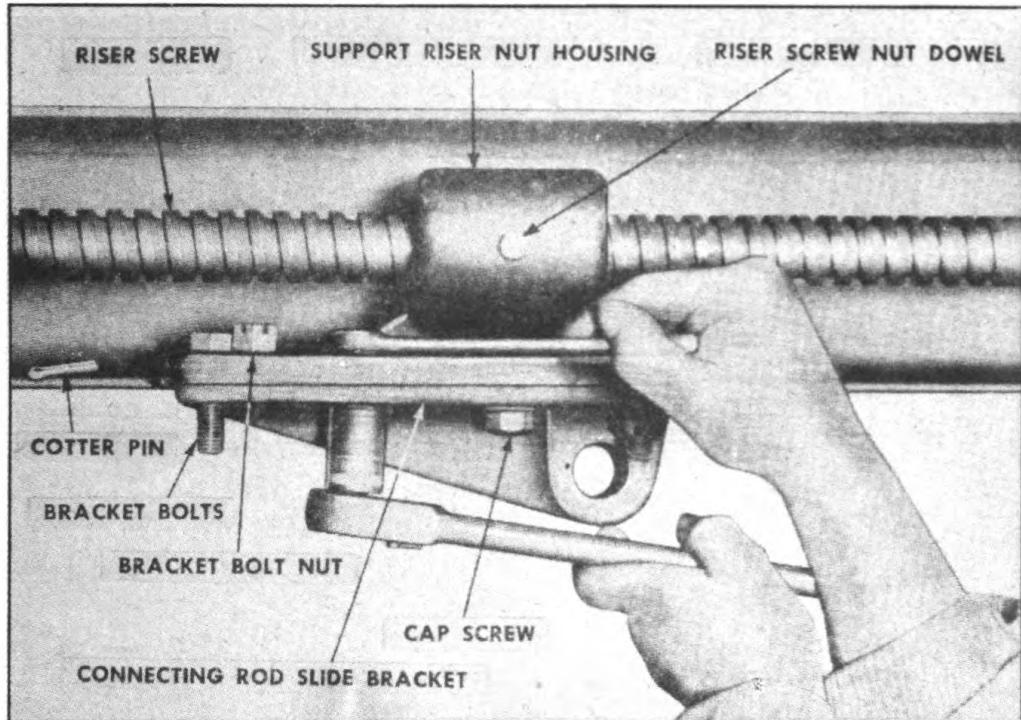

FIGURE 63. REMOVING SUPPORT SLIDE BRACKET
- c.* Remove the three bolts and one cap screw holding connecting rod bracket and riser nut housing together (Figure 63).
(6) Remove the three bolts and one cap screw from connecting rod bracket (Figure 63).